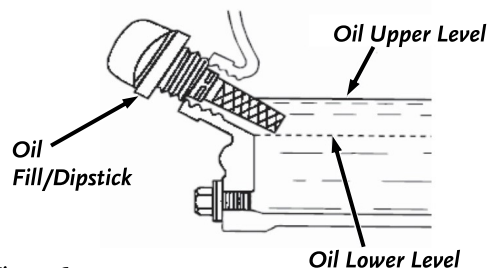

Figure 6
- Insert the Dipstick, but do not screw it down to check the oil level (**Figure 6**). Continue adding a few ounces of oil at a time, rechecking the Dipstick until the oil reaches the Oil upper level. Be careful not to overfill.